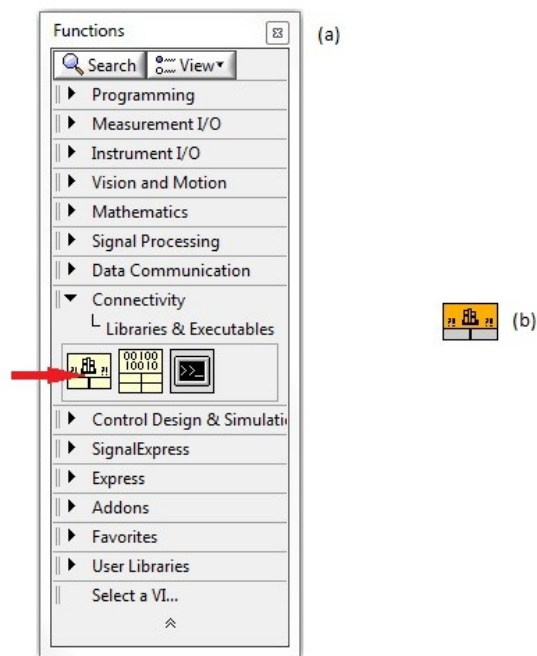

Figure 45: Selecting an external library from the Function palette.
1. While editing your LabVIEW application block-diagram, go to the **Functions palette** and select the **Connectivity - Libraries & Executables** tab. Click on the **Call Library Function Node** (see Figure 1a). The library node shown in Figure 45(b) will show up on the Block-Diagram.